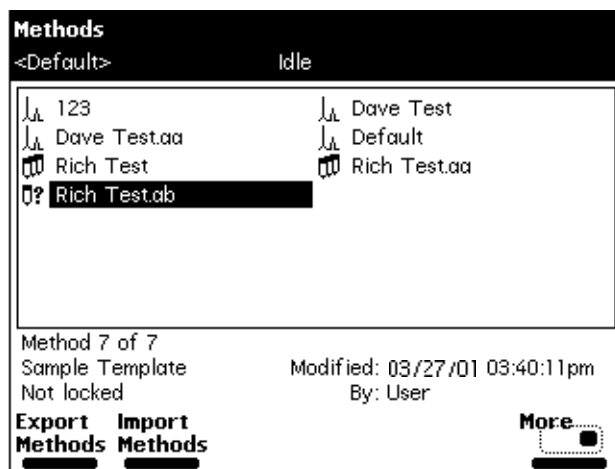

Figure 6-20 Methods Screen
2. Press the **Methods** screen key in the Main screen, then press the **More** screen key twice to access the Export Method and Import Method screen keys. The Methods screen appears, as shown in Figure 6-20.